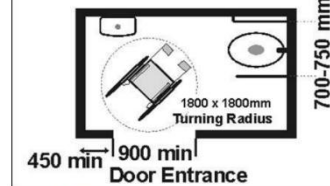

Figure 8-1: Wheelchair maneuvering space in toilet
- The layout of the fixtures in the toilet should be such that there is a clear maneuvering space of 1800mm x 1800mm in front of the water closet and wash basin in the accessible toilet unit (Figure 8-1);